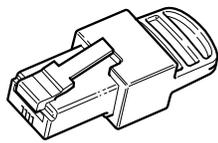

Figure 2-13 Network Terminator
- Network terminators (Figure 2-13)—the Xanbus network must be properly terminated at each end to ensure the communication signal quality on the network. Network terminators plug into network ports on Xanbus-enabled devices. The charge controller and other Xanbus-enabled devices ship with one terminator. Depending on your network layout, this terminator may need to be inserted into another device elsewhere in the network.